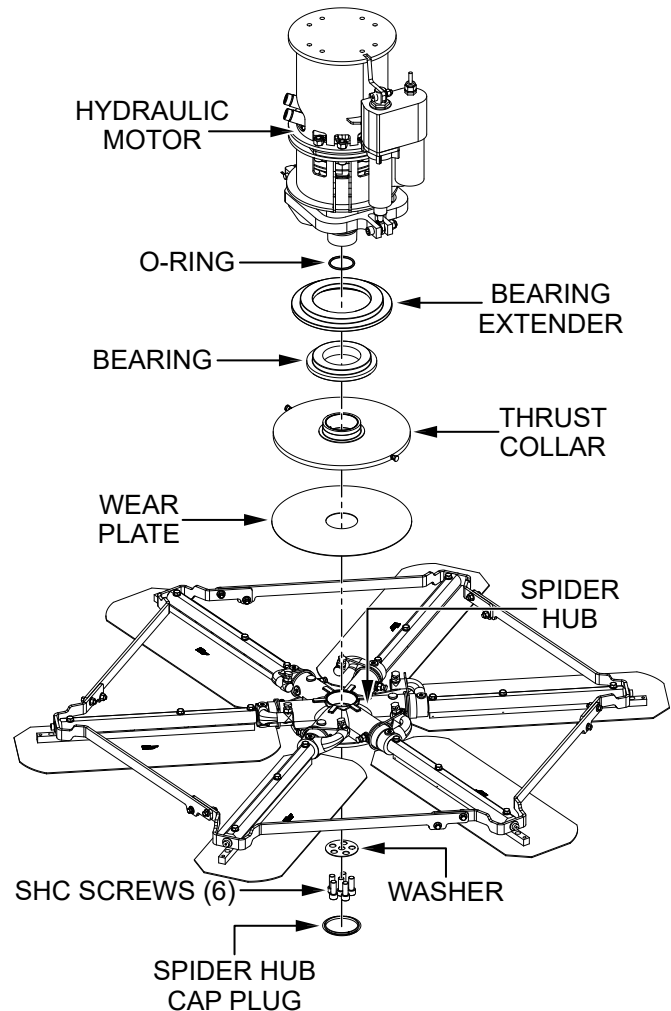

Figure 49. Rotor Assembly Components
5. Remove the **spider hub cap plug** (Figure 49) and set it aside.
6. Remove and set aside the **six socket-head screws** securing the **spider hub** to the hydraulic motor shaft (Figure 49).